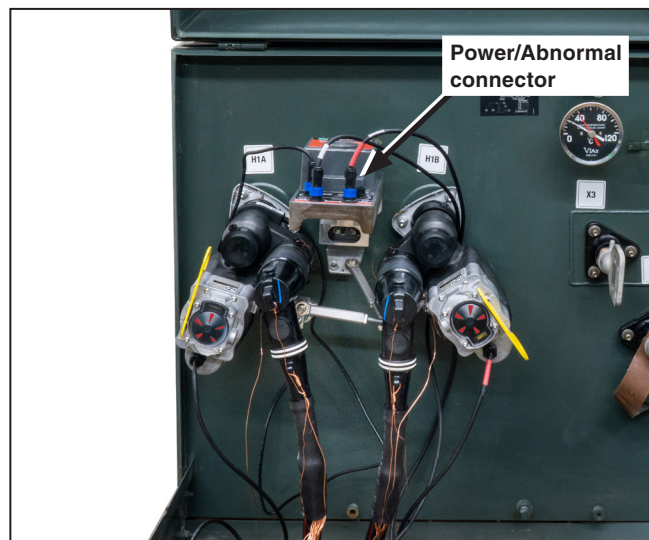

Figure 42. Completed control connections. A normally closed control is shown.
A complete installation is shown in Figure 42 on page 26. A normally closed control is shown, but a normally open one is similar.
- ❑ Make sure all cables have been trained away from where the enclosure cover engages with the enclosure. See Figure 42 on page 26.